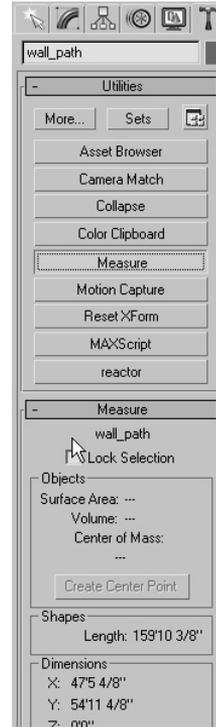

FIGURE 9.1
2. Right-click in the Top viewport to activate it and select the triangular 2D shape called wall_path. This shape defines the honeycomb wall around the control room and to build the wall the right size you need to know the length of the path. In the Utilities panel, click the Measure button. In the Shapes area of the Measure rollout, you see that the Length of this object is 159 feet 10 3/8 inches (see Figure 9.1). For your purposes in this exercise, rounding to 160 feet is fine. This becomes the length of the wall.